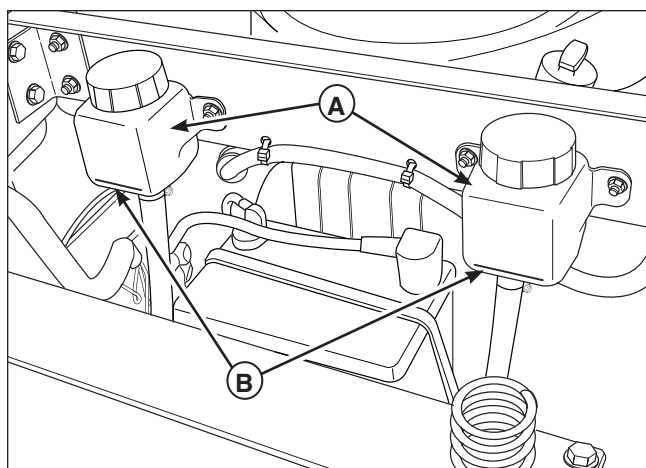

Figure 27. Transmission Oil Reservoirs
1. Check the oil level when the unit is cold. Raise the seat plate to gain access to the transmission oil reservoirs (A, Figure 27). The oil should be up to the "FULL COLD" mark (B). If the oil is below this level, proceed to step 2.
3. Add oil up to the "FULL COLD" mark (B, Figure 27).